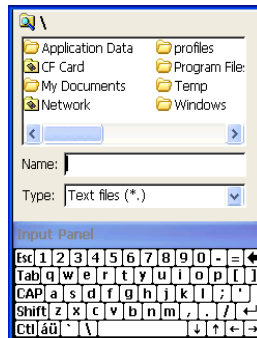

Figure 3-11. Navigate to and Select Text File
2. On the **file explorer** dialog box, select the text file to import from the appropriate directory and press **Ok** (Figure 3-11).